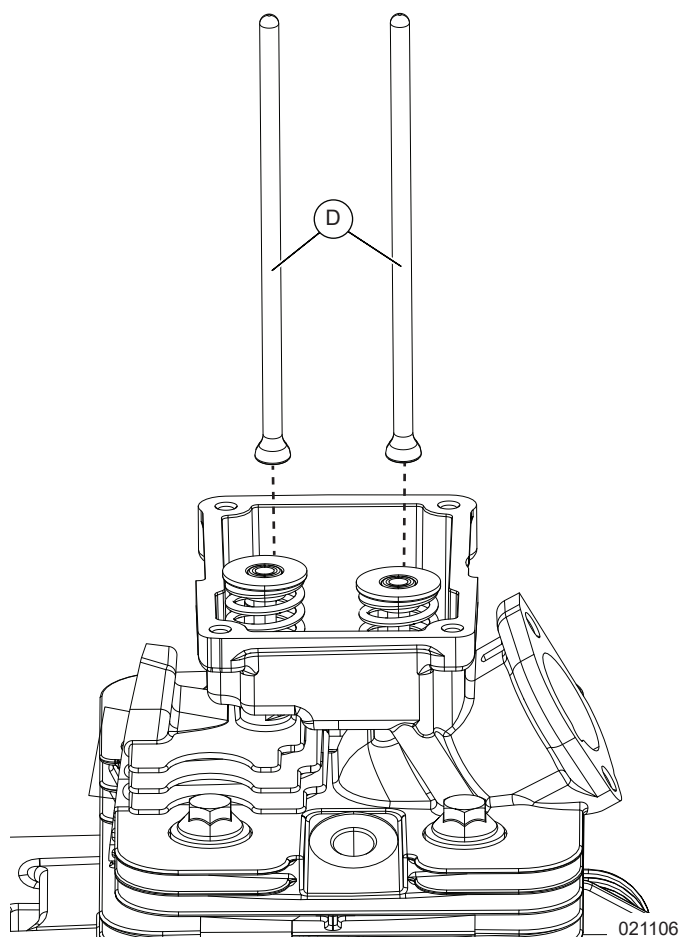

Figure 6-28. Remove Pushrods
- See Figure 6-28. Remove the two pushrods (D).